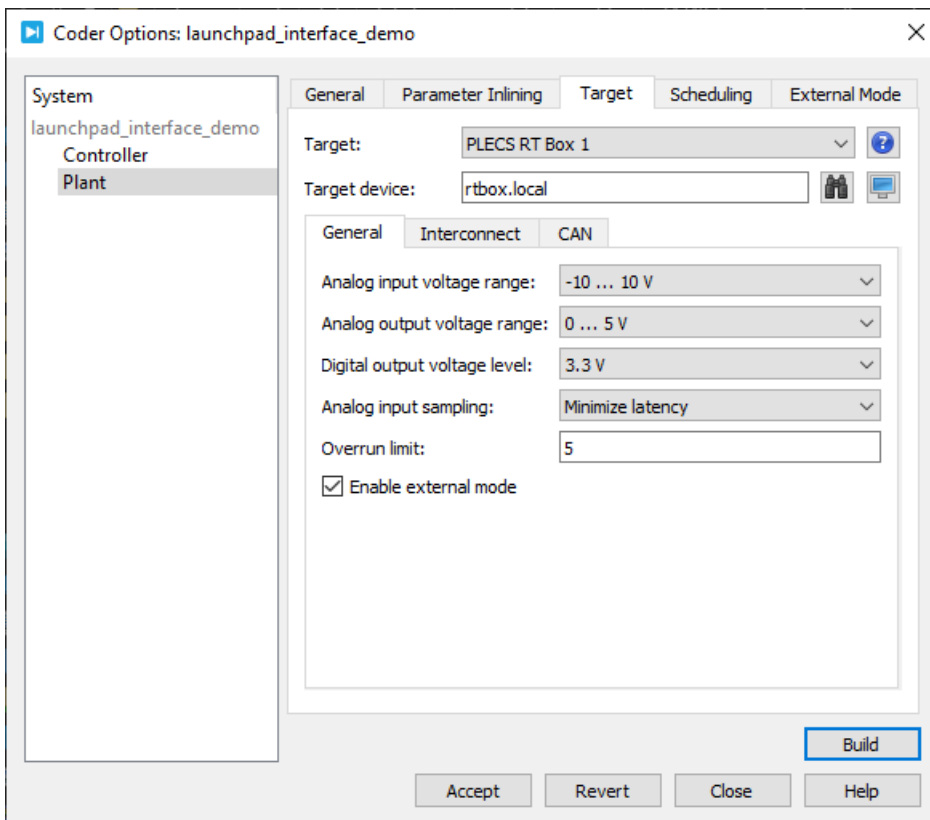

Figure 7: Programming the RT Box
- Click the **Coder** drop-down in the top-menu bar and select **Coder options....** You will see a window similar to Fig. 7.